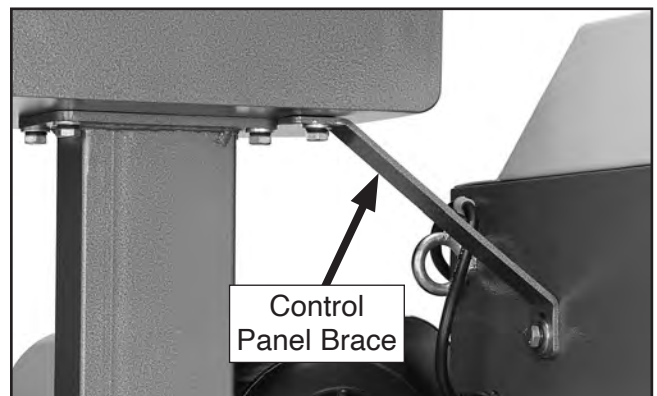

Figure 17. Location of control panel brace.
10. Attach control panel brace to sander, (see **Figure 17**), then install right access panel.